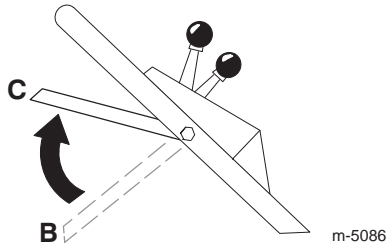

Figure 14
3. Bring the control bar up into the middle position about 5 inches (12.7 cm) below the handle cross bar (Position **C** in Fig. 14).
4. Release the control bar (Position **B** in Fig. 14).